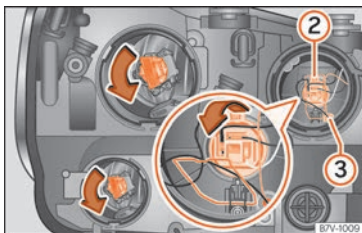

Fig. 63 Left headlight.
- Press the wire clip downwards and pull the bulb holder  **Fig. 63 2** out together with the bulb.
- Pull the bulb holder  **Fig. 63**  out backwards together with the bulb.